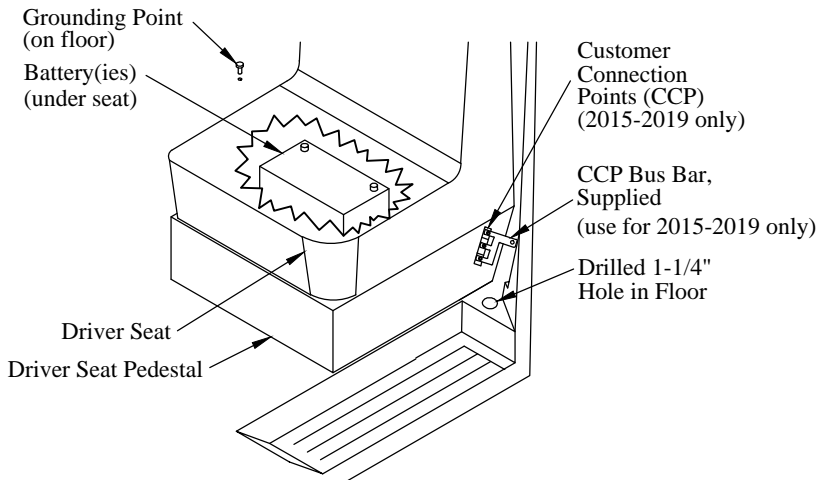

Figure 17: Customer Connection Point location.
4. **Drill** and **Deburr** a 1-1/4" hole in the floor next to the driver seat in the location shown (Figure 17).
10. **Cut** the negative(-) lead to the length required to reach a vehicle ground point on the floor between the front seats (Figure 17).
12. **Connect** the negative(-) lead to a vehicle ground point on the floor between the front seats. (Figure 17).
19. **Remove** the plastic cover from the CCP on the driver seat pedestal (Figure 17).
20. **Install** the supplied bus bar on the CCP studs using three (3) supplied M5 nuts and star washers.